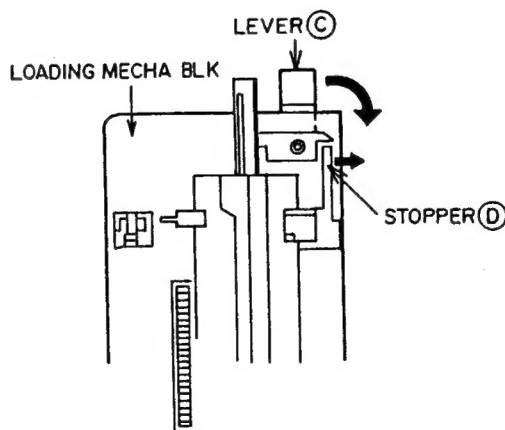

Fig. 4-5
- 2) Turn the LEVER (C) while releasing the STOPPER (D) as shown Fig.4-5, and pull out the DISC DRAWER.